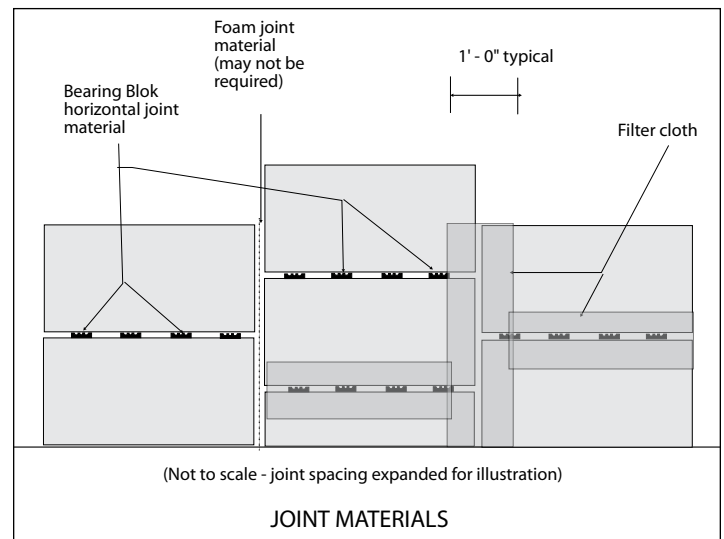

Figure 20
- Filter Cloth is affixed to the backfill side of both the vertical and the horizontal panel joints (Figure 20) using several dabs of a contact adhesive.